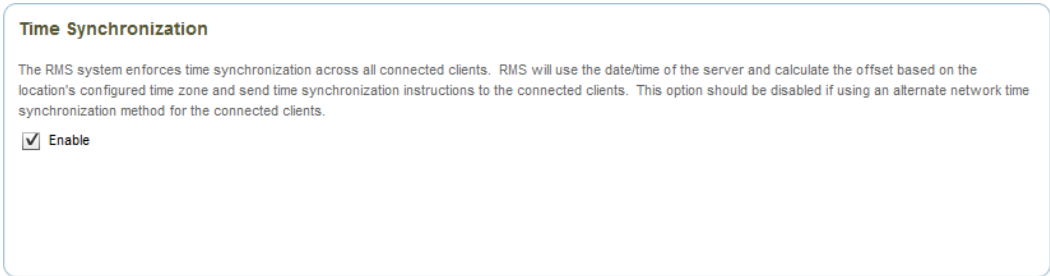

FIG. 371 Time Synchronization page
Select **Time Synchronization** under *System Configuration* in the Configuration menu to open the *Time Synchronization* page (FIG. 371):
- 1. Select **Time Synchronization** under *System Configuration* in the Configuration menu to open the *Time Synchronization* page (FIG. 371 on page 224).